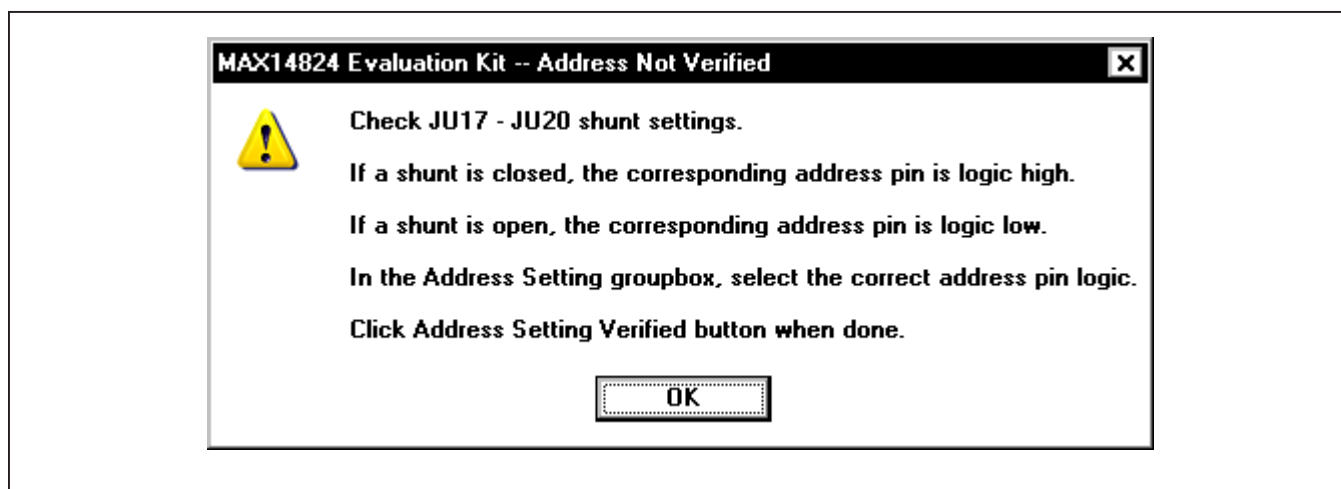

Figure 1. MAX14824 EV Kit Software Address Verification Reminder Window
- 6) Start the EV kit software by opening its icon in the Windows **Start | Programs** menu. The EV kit software address verification reminder window appears, as shown in Figure 1. Press the **OK** button to proceed.